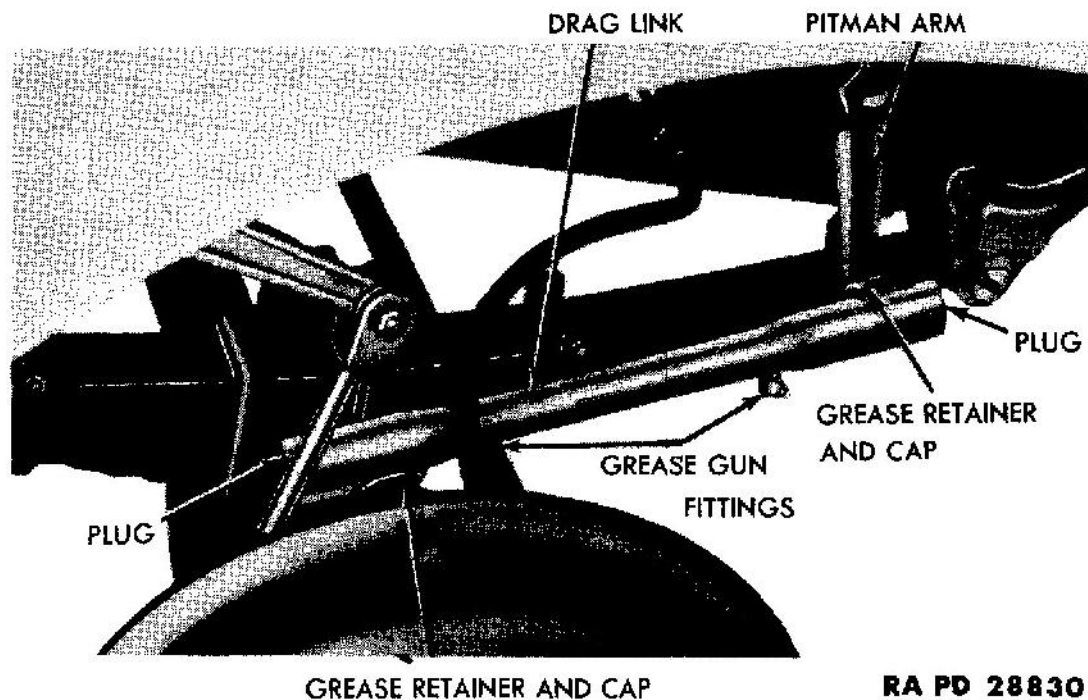

Figure 66 – Drag Link
a. **Removal.** Remove the cotter pin and unscrew the drag link plug at the rear end of the drag link (fig. 66) and unscrew the drag link plug. Turn the steering wheel so that the pitman arm moves toward the rear of the vehicle and remove the ball seat and the drag link from the pitman arm ball. Remove the cotter pin and unscrew the drag link plug at the forward end of the drag link. Pull the drag link back and remove the ball seat and the drag link from the spindle arm ball.